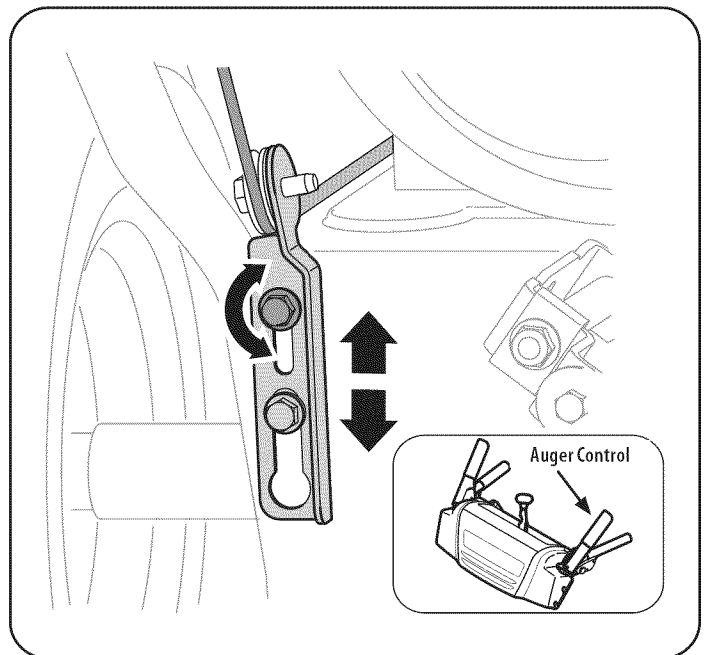

Figure 16
1. The auger control is located on the left handle. See Figure 16 inset. When the auger control is released and in the disengaged “up” position, the cable should have very little slack. It should NOT be tight.
4. Allow the auger to remain engaged for approximately ten (10) seconds before releasing the auger control. Repeat this several times.
7. To readjust the control cable, loosen the upper hex bolt on the auger cable bracket. See Figure 16.